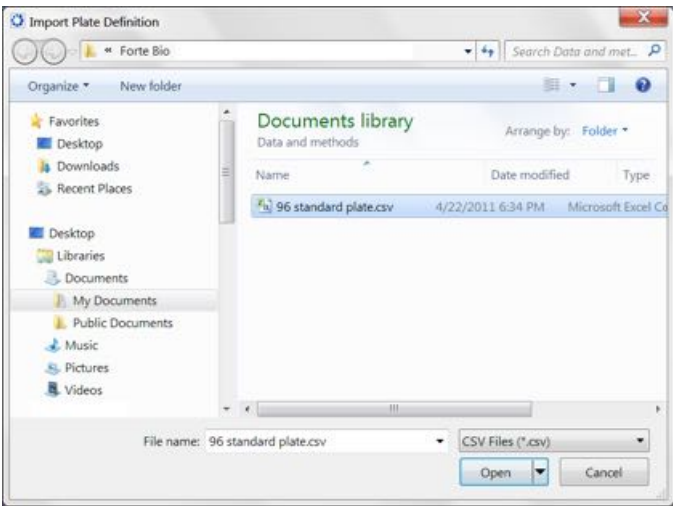

Figure 5-24: Import Plate Definition Window
2. In the **Import Plate Definition** window (see Figure 5-24), select the plate definition (.csv), and click **Open**.